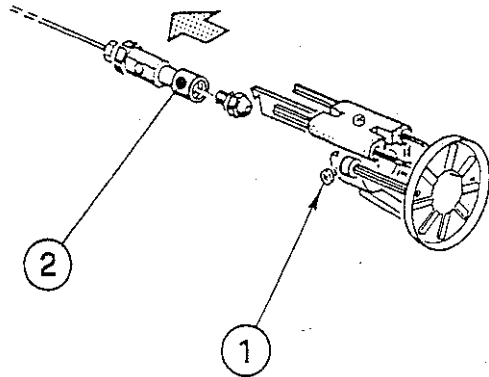

Figure 25: Nozzle Replacement
3. **Nozzle Replacement**, Refer to Figure 25